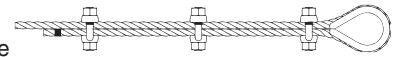

Figure 3
3. When three or more additional clips are required, space first two – take up rope slack – use torque wrench to tighten nuts on each clip evenly, alternating from one nut to the other until reaching recommended torque. (See Figure 3)